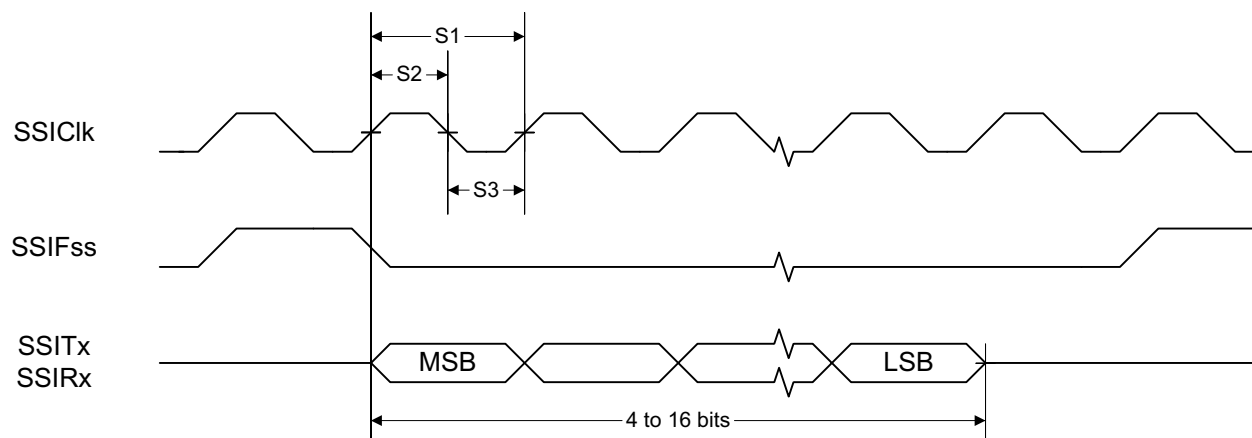
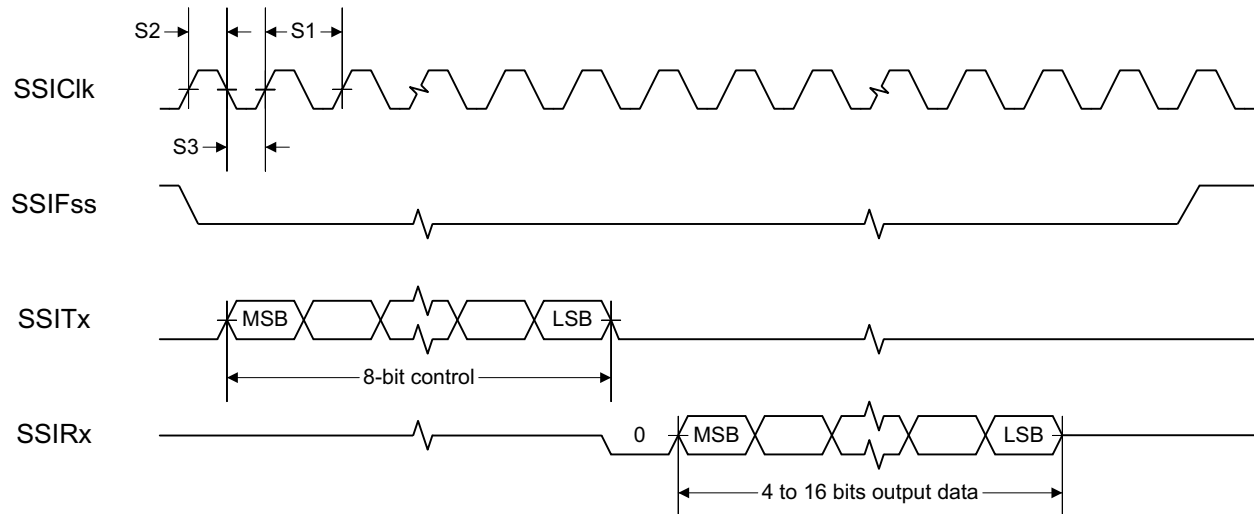
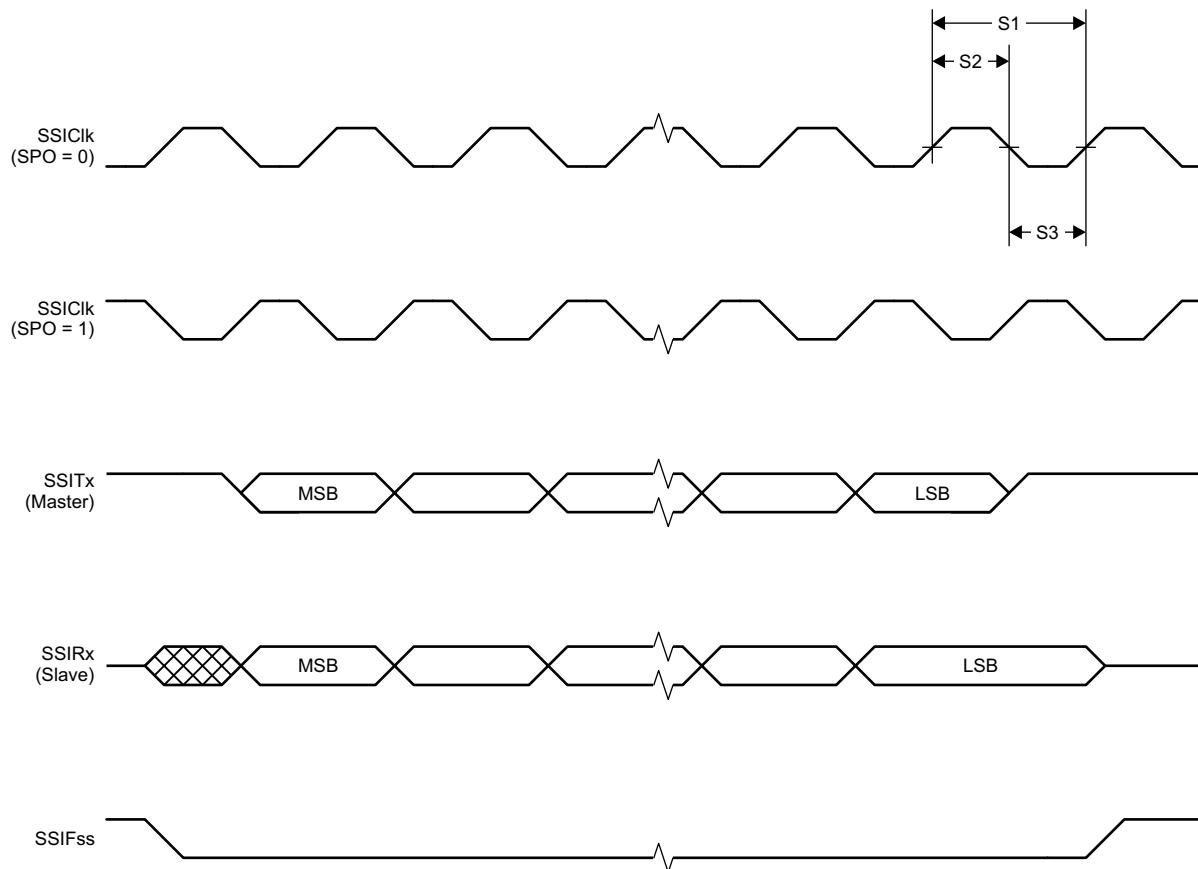

Figure 5-1. SSI Timing for TI Frame Format (FRF = 01), Single Transfer Timing Measurement
Figure 5-2. SSI Timing for MICROWIRE Frame Format (FRF = 10), Single Transfer
Figure 5-3. SSI Timing for SPI Frame Format (FRF = 00), With SPH = 1
(2) Applications using RCOSC_LF as sleep timer must also consider the drift in frequency caused by a change in temperature (see Section 5.13).
(3) T_A = –40°C to 85°C, V_{DD}S = 1.7 V to 3.8 V, unless otherwise noted.
(4) T_C = 25°C, V_{DD}S = 3.0 V, unless otherwise noted. Device operating as SLAVE. For SSI MASTER operation, see Section 5.23.
(5) Refer to SSI timing diagrams Figure 5-1, Figure 5-2, and Figure 5-3.
(1) Device operating as MASTER. For SSI SLAVE operation, see Section 5.22.
(2) Refer to SSI timing diagrams Figure 5-1, Figure 5-2, and Figure 5-3.